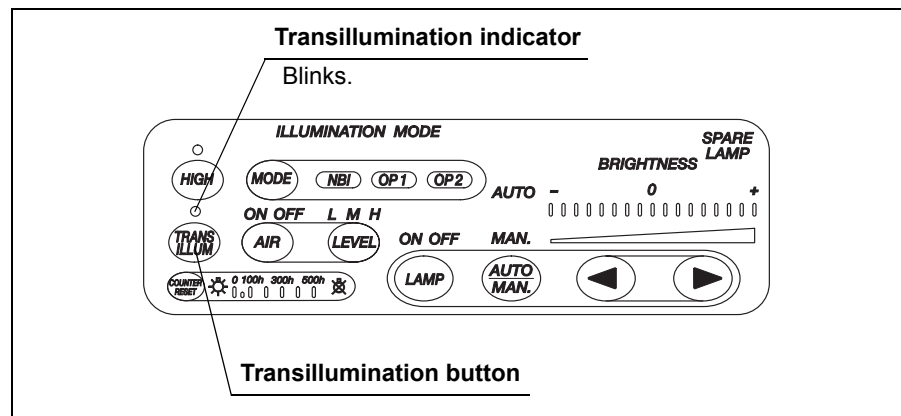

Figure 3.14
1. Press the transillumination button (see Figure 3.14).